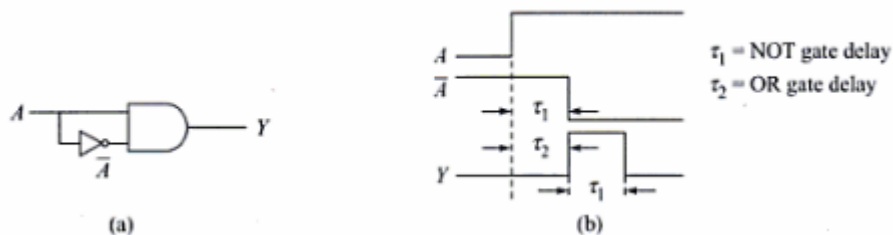

Figure 3.36: Static-0 hazard
- If output goes momentarily 1, when it should remain a 0, the hazard is known as *static-0 hazard* (Figure: 3.36).